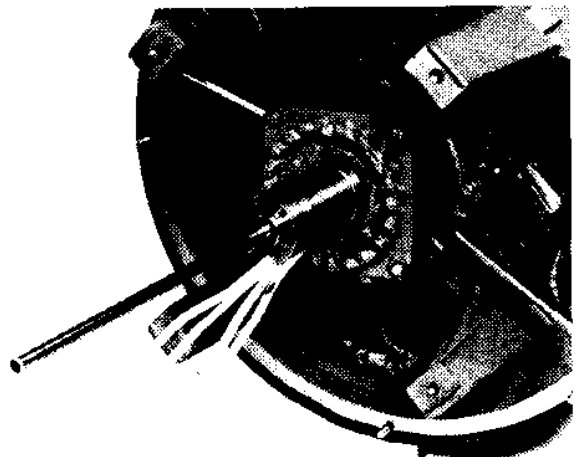
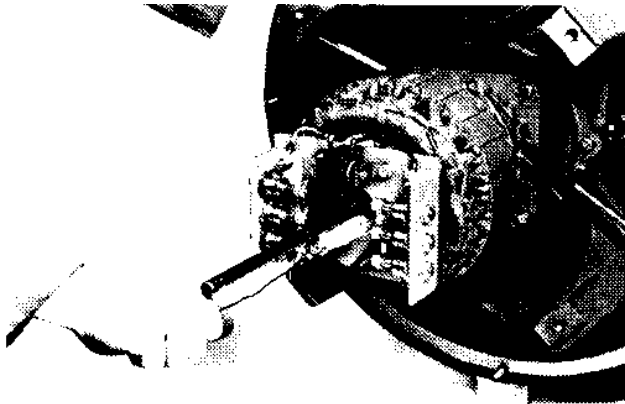

FIGURE 6-70
FIGURE 6-71
1. Attach a wire to the main rotor leads and feed the wire through the armature bore and out the lead hole in the aluminum standoff plate. On larger exciters, it will be helpful to install a guide pin in the end of the shaft to support the armature while fishing the rotor leads through. (Figure 6-70.) Align the key in the armature bore to the keyway in the shaft. Slide the armature on the shaft while feeding the main rotor leads through the lead hole in the aluminum standoff plate. (Figure 6-71.)